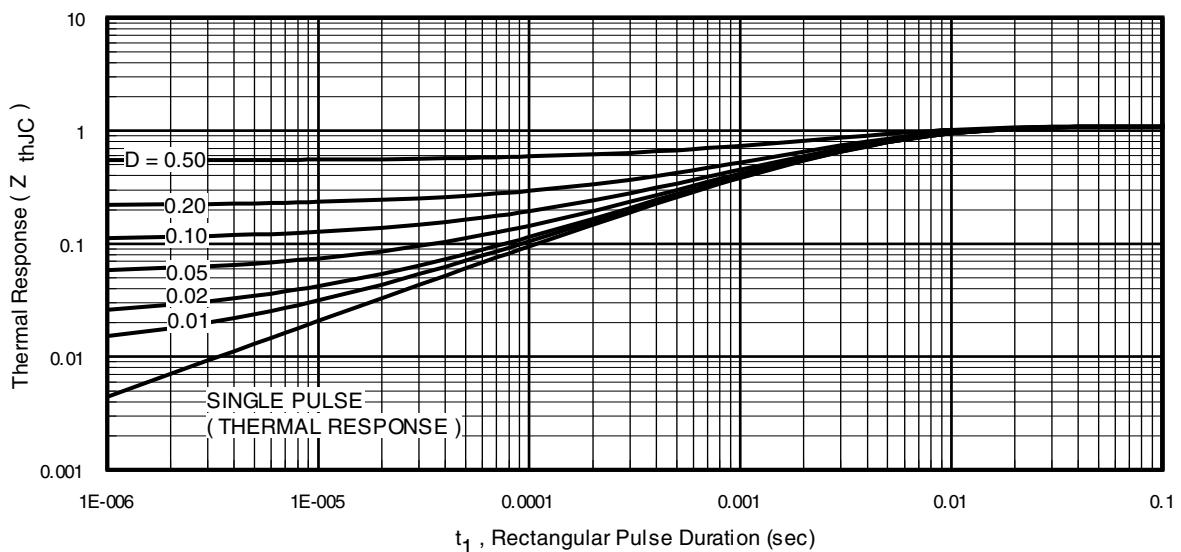
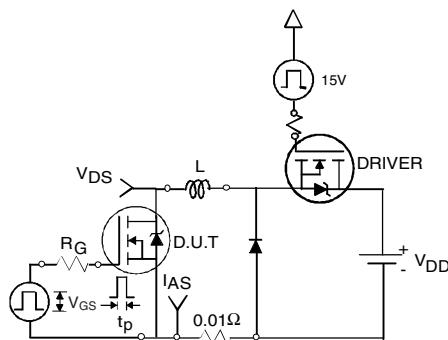

Fig 11. Maximum Effective Transient Thermal Impedance, Junction-to-Case
Fig 12a. Unclamped Inductive Test Circuit
3. Equation below based on circuit and waveforms shown in Figures 12a, 12b.
$Z_{thJC}(D, t_{av})$ = Transient thermal resistance, see figure 11)
- ① Repetitive rating; pulse width limited by max. junction temperature. (See fig. 11).
- ② Limited by T_{Jmax} , starting $T_J = 25^\circ C$, $L = 0.47mH$ $R_G = 25\Omega$, $I_{AS} = 30A$, $V_{GS} = 10V$. Part not recommended for use above this value.
- ③ $I_{SD} \leq 30A$, $dI/dt \leq 300A/\mu s$, $V_{DD} \leq V_{(BR)DSS}$, $T_J \leq 175^\circ C$
- ④ Pulse width $\leq 1.0ms$; duty cycle $\leq 2\%$.
- ⑤ $C_{oss\ eff.}$ is a fixed capacitance that gives the same charging time as C_{oss} while V_{DS} is rising from 0 to 80% V_{DSS} .
- ⑥ Limited by T_{Jmax} , see Fig.12a, 12b, 15, 16 for typical repetitive avalanche performance.
- ⑦ This value determined from sample failure population. 100% tested to this value in production.
- ⑧ When mounted on 1" square PCB (FR-4 or G-10 Material). For recommended footprint and soldering techniques refer to application note #AN-994